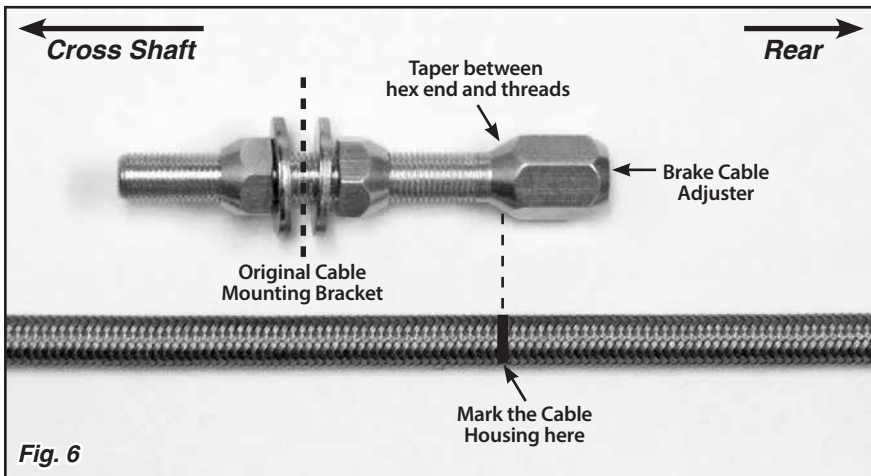

Fig. 6
**Step 5:** It will be necessary to shorten the cable housings. **Make sure that the inner wires are removed from the cable housings!** Mark the cable housings where they line up with the tapered part of the cable adjuster fitting, between the hex end and the threads. **Fig. 6**